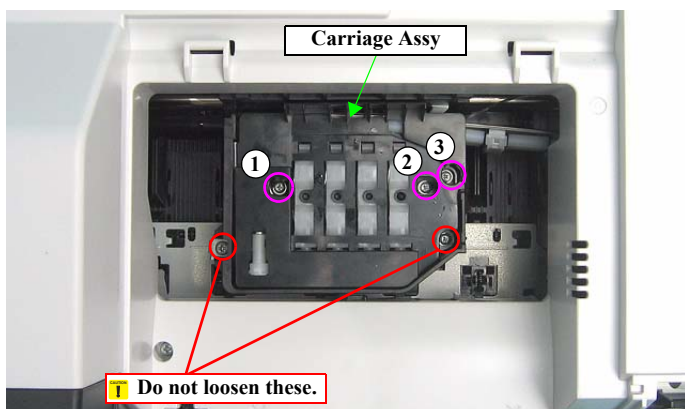

Figure 5-10. Head angular adjustment (1)
3. Loosen the screws (x3: ○) in the order given in Fig. 5-10.
(The Carriage Assy moves to the location shown in Fig. 5-10.)